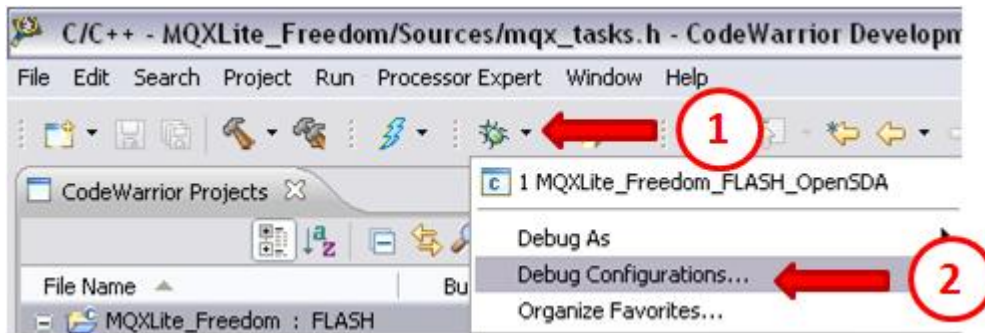

Figure 43. Entering into Debug Configurations.
1. Go to the debug button (bug icon) in the tools bar and expand the debugging menu just like Figure 43 demonstrates. Then click on the Debug Configuration option to enter into the available debug settings for the project.